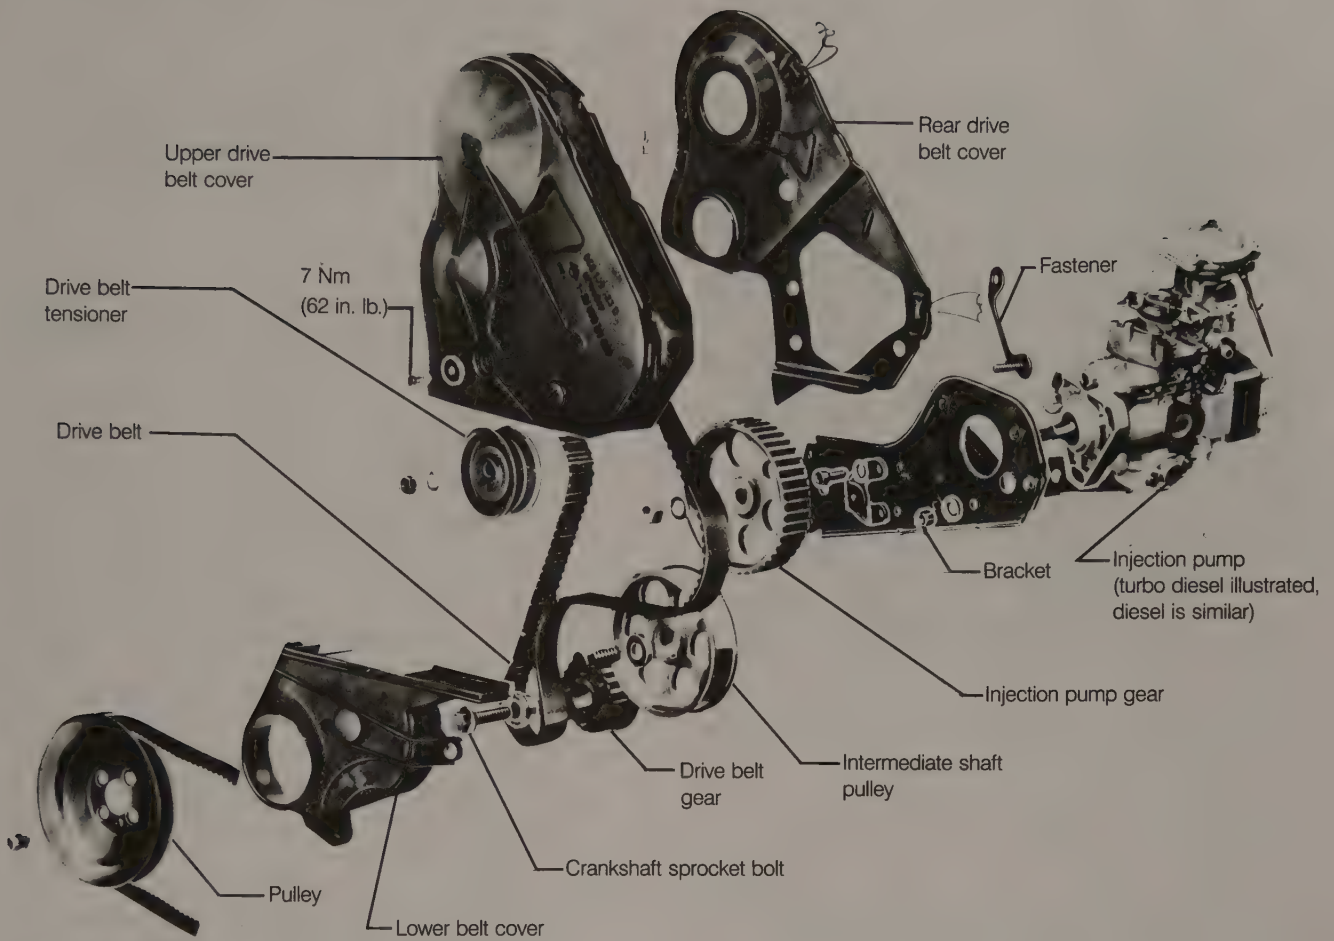

Fig. 5-9. Camshaft and injection pump drive belt, sprockets, and covers.
1. Remove the upper drive belt cover. One bolt holds the cover on its mount. Three spring clips hold the upper cover to the rear drive belt cover. See Fig. 5-9.